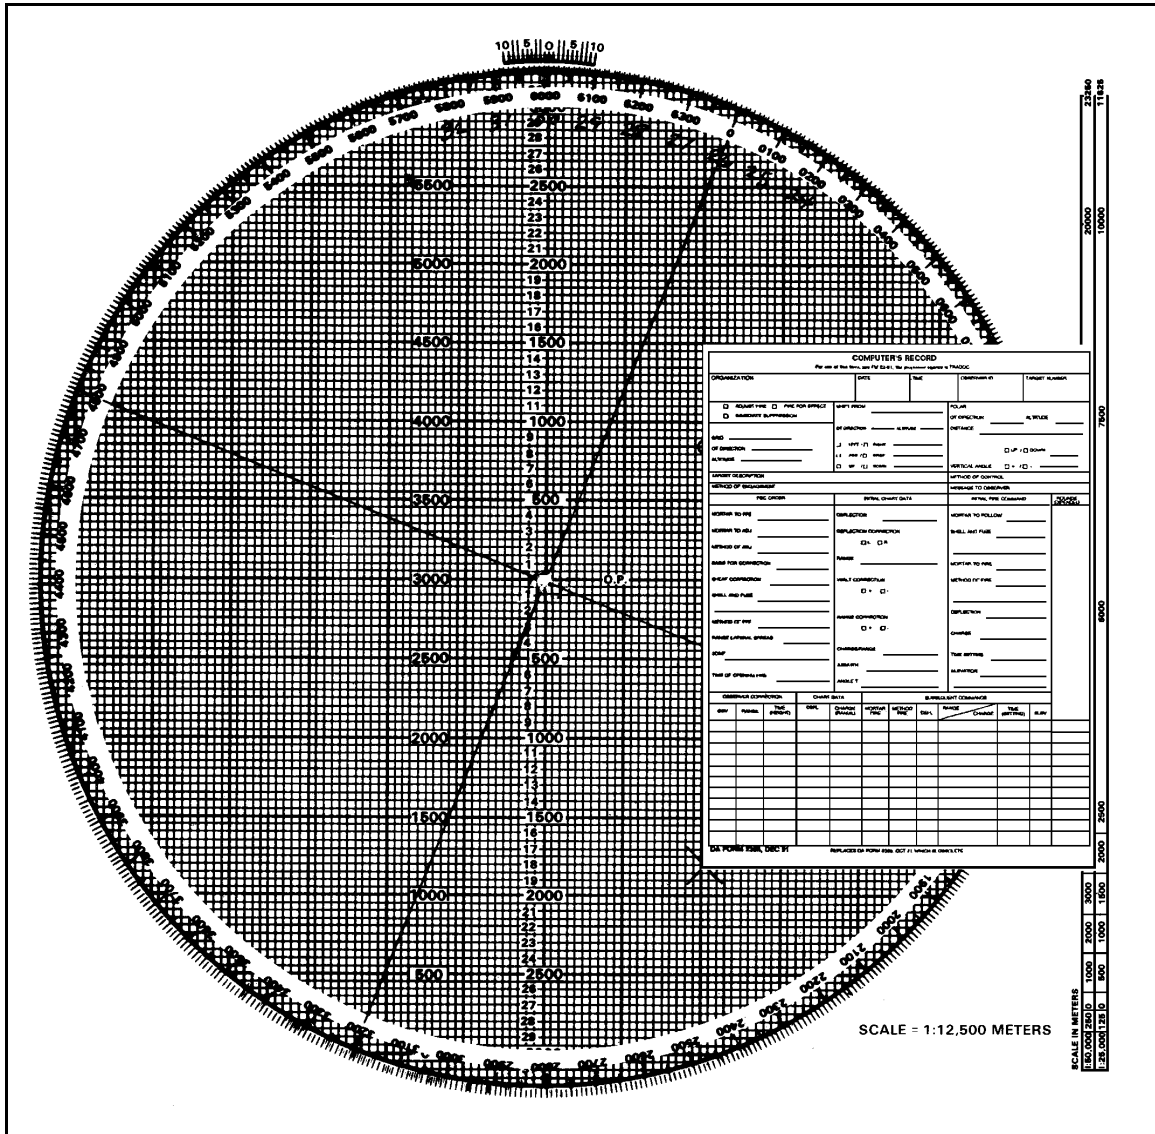

Figure 12-14. Determination of range with edge of Computer's Record.
(4) Now determine ranges differently than with the mortar position plotted at the pivot point. Count each of the 50-meter squares from the mortar position to the target or place the edge of the computer's record alongside the two plots on the plotting board (mortar and target). Then make a tick mark on the edge of the computer's record at each plot. Using the alternate range scale to the left of the pivot point, lay the computer's record along this scale with the mortar tick mark at 0 and read the range (Figure 12-14).